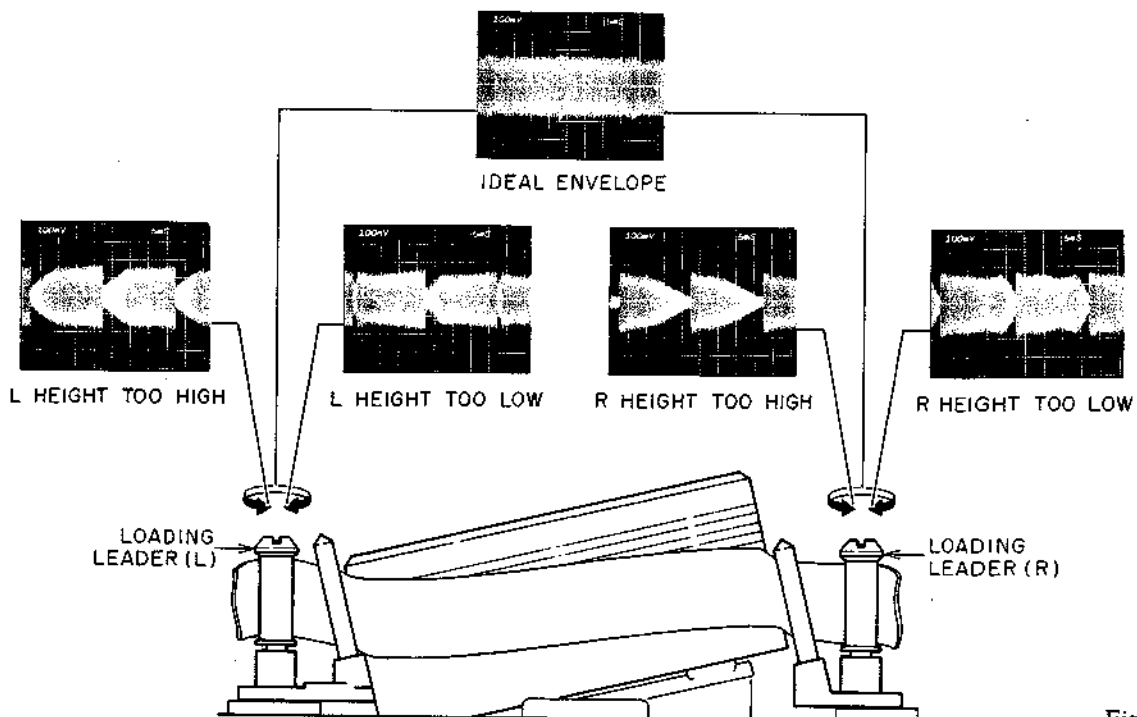

Fig. 5-13
- 4) Turn the LOADING LEADER Heads with a screwdriver to obtain flat RF envelope as Ideal Envelope shown in Fig. 5-13.